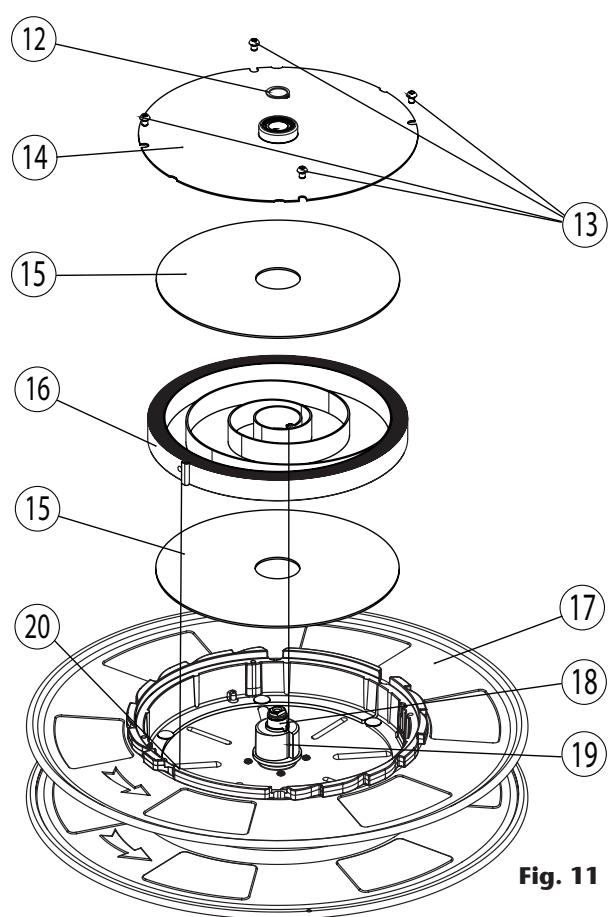

Fig. 11
7. With the spool lying flat, remove the circlip (12) (fig. 11) from the shaft. Next, loosen the bolts (13). Carefully lift up the power spring cover (14) which will come out with the bearing, all together. Take apart the silencer disc (15), and finally disassemble the power spring (16). Be careful to avoid remove the spring fixation (19) which could be slightly held to the power spring.
9. Apply a light coat of grease inside the spring case and cover. Carefully install the new power spring . Be sure, the power spring hooks are aligned with the spool (20) (fig. 11) and spring fixation (19) (fig. 14) hooks.
10. Once the power spring is in the case, assemble the silencer disc (15) (fig. 11) and the lid (14) (fig. 11).
11. Be sure the cover is aligned with the adjacent piece (the slots must be aligned). Then, fasten the lid with the bolts (13) (fig. 11).
12. After placing the lid, assemble the circlip (12) (fig. 11) and then, place the spool assembly on the hose reel frame.